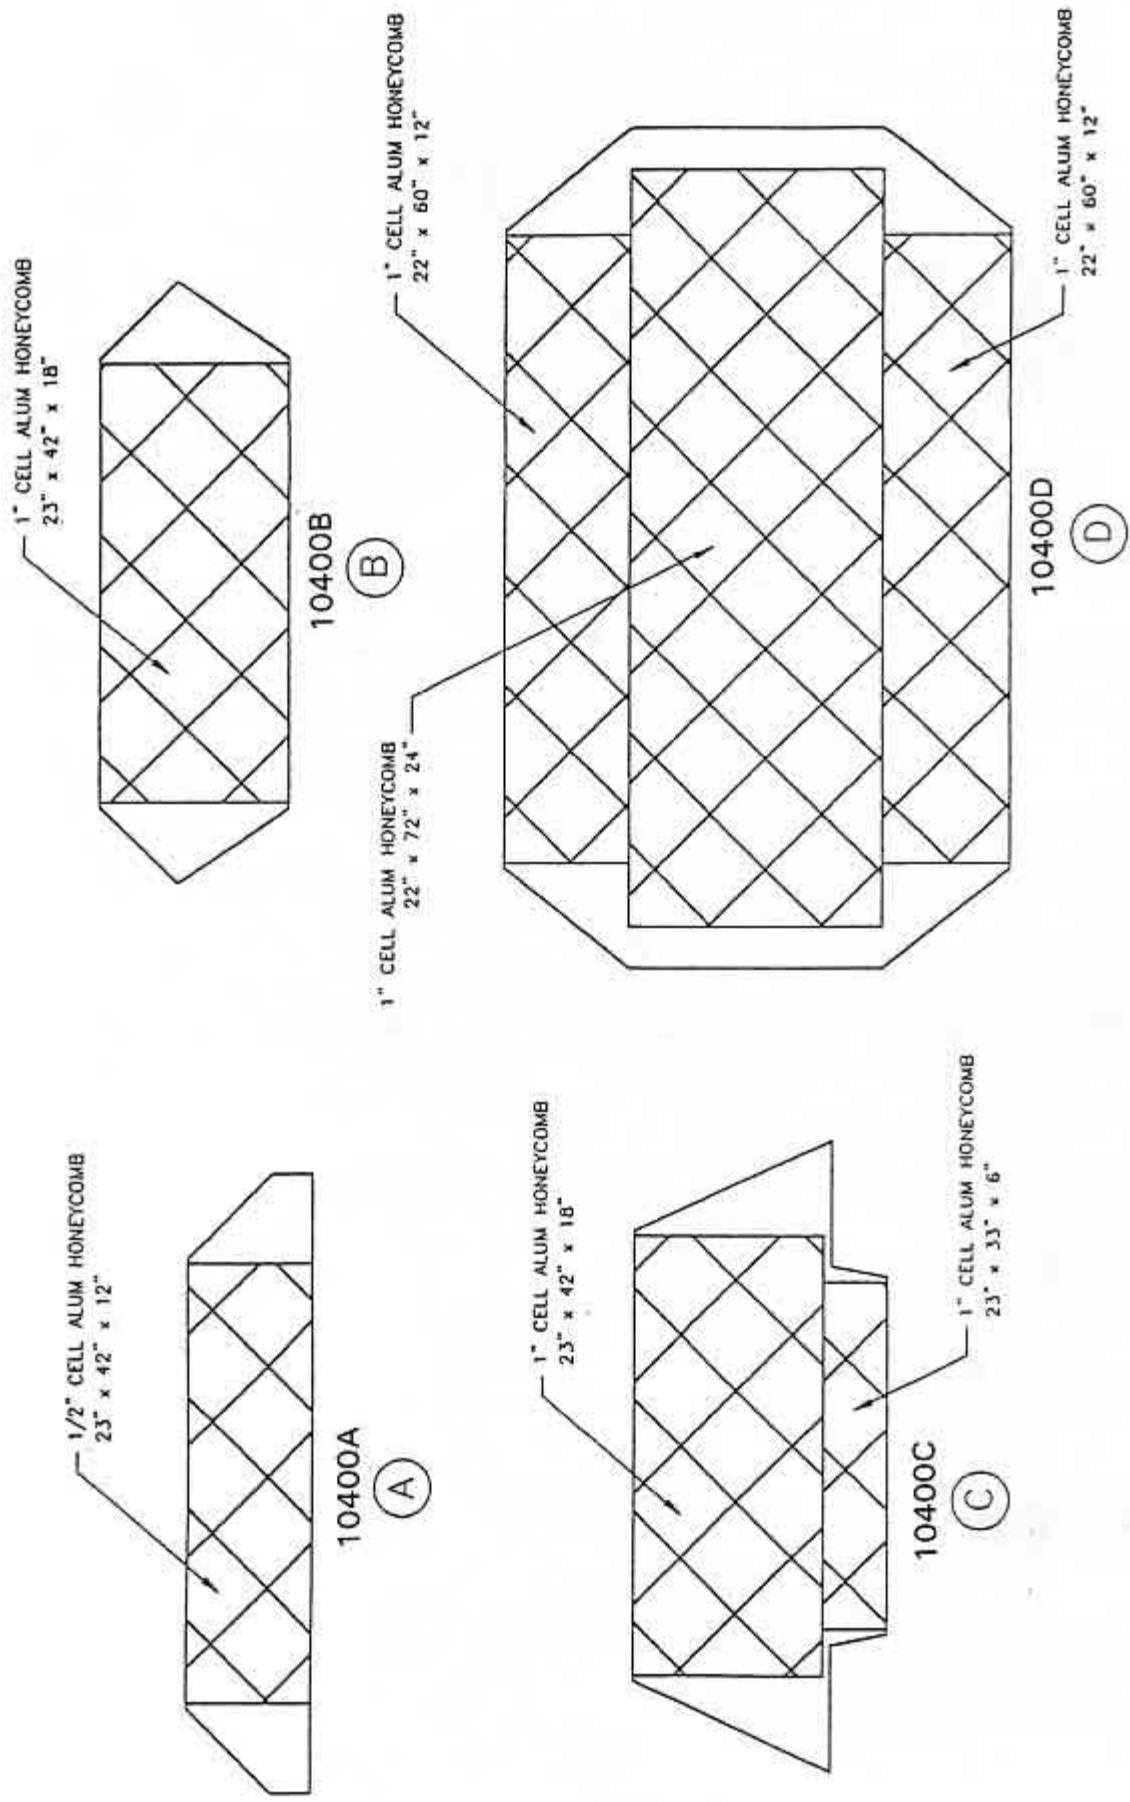
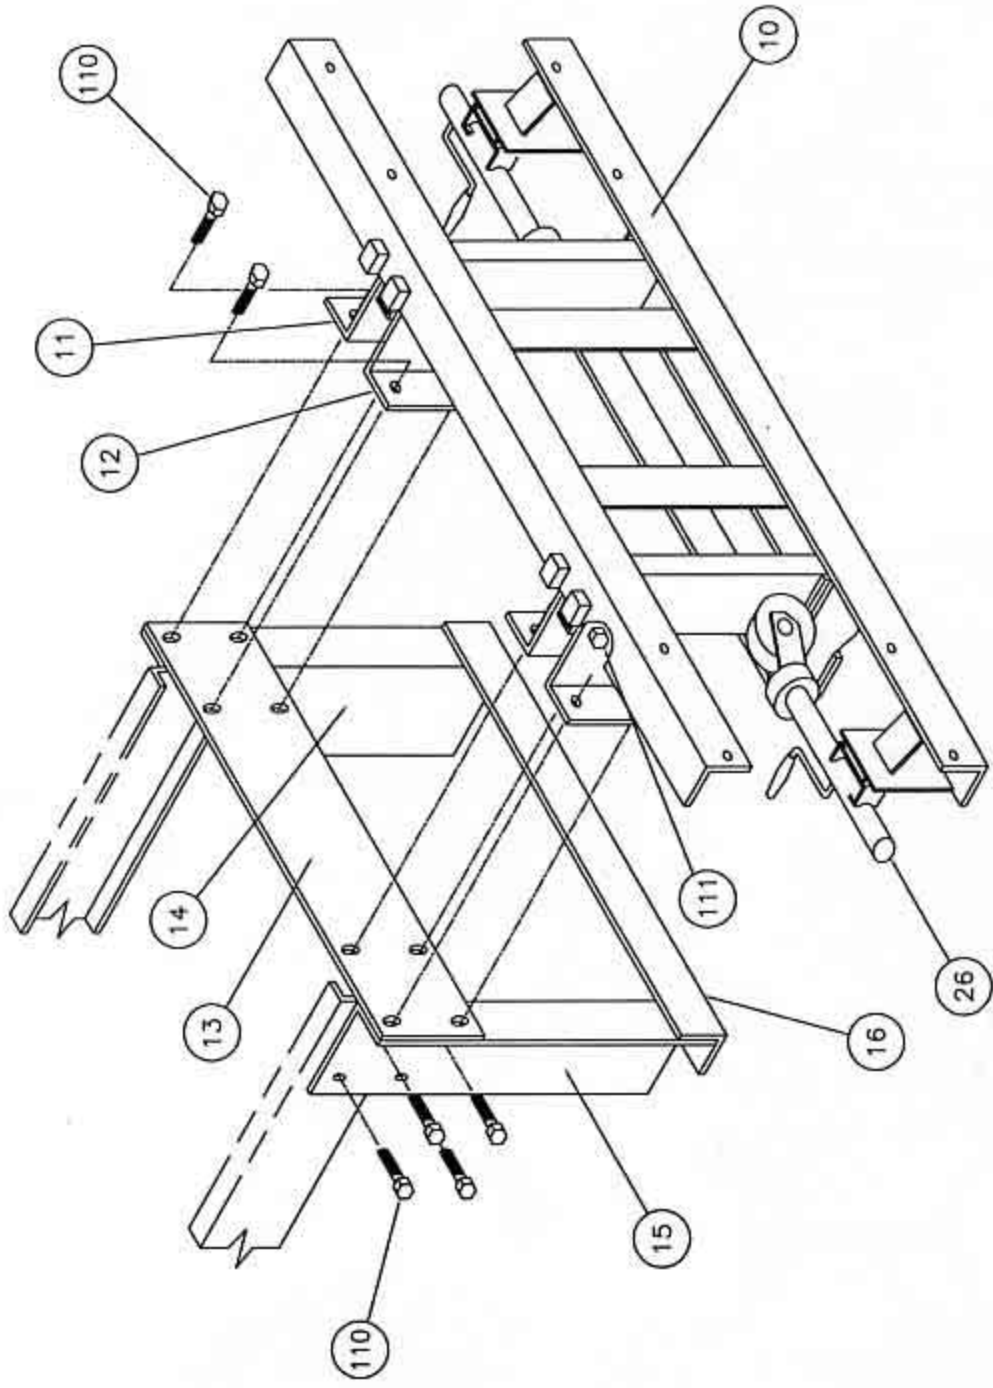

Fig. 10 – Scorpion TMA Model B or C Energy Absorbers
Fig. 11 - Standard Backup for Flatbed Truck Mount
**2.1 Construction** – The Scorpion TMA 10,000 consists of three basic components. A steel back-up is attached to the rear of the truck with an all-steel support structure, figs. 11, 12 & 13. An all aluminum tube frame extends out 13' from the back-up. Inside the tube frame is a series of four aluminum boxes filled with energy absorbing aluminum honeycomb, fig. 10.